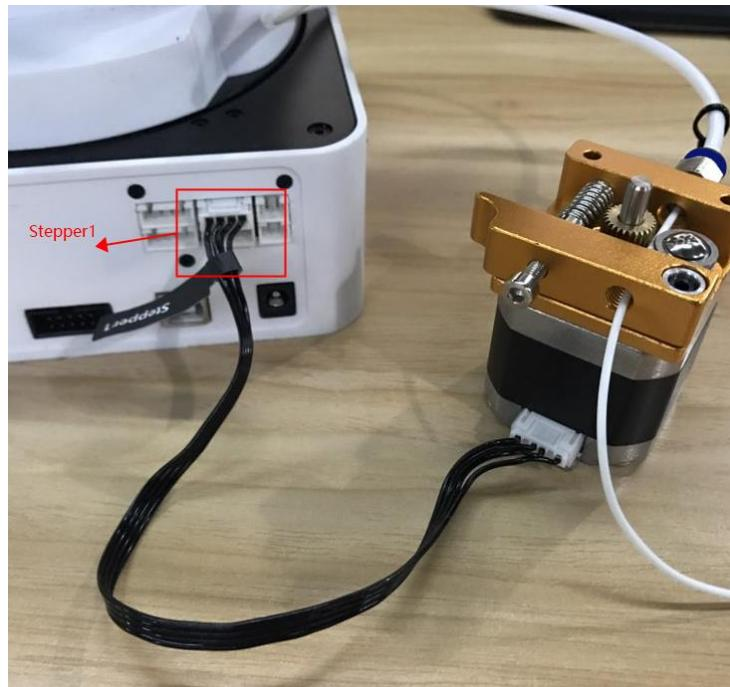

Figure 5.124 Connect with extruder
**Step 6** Connect the extruder to the **Stepper1** interface on the back of the base with motor cable, as shown in Figure 5.124.